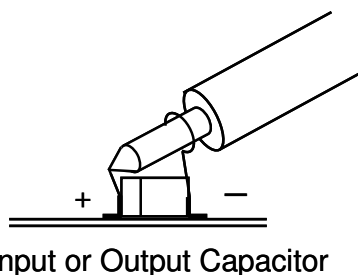

Figure 2. Scope Probe Placements for Measuring Input or Output Ripple.
5. To measure input and output ripple, please refer to Figure 2 for proper setup.